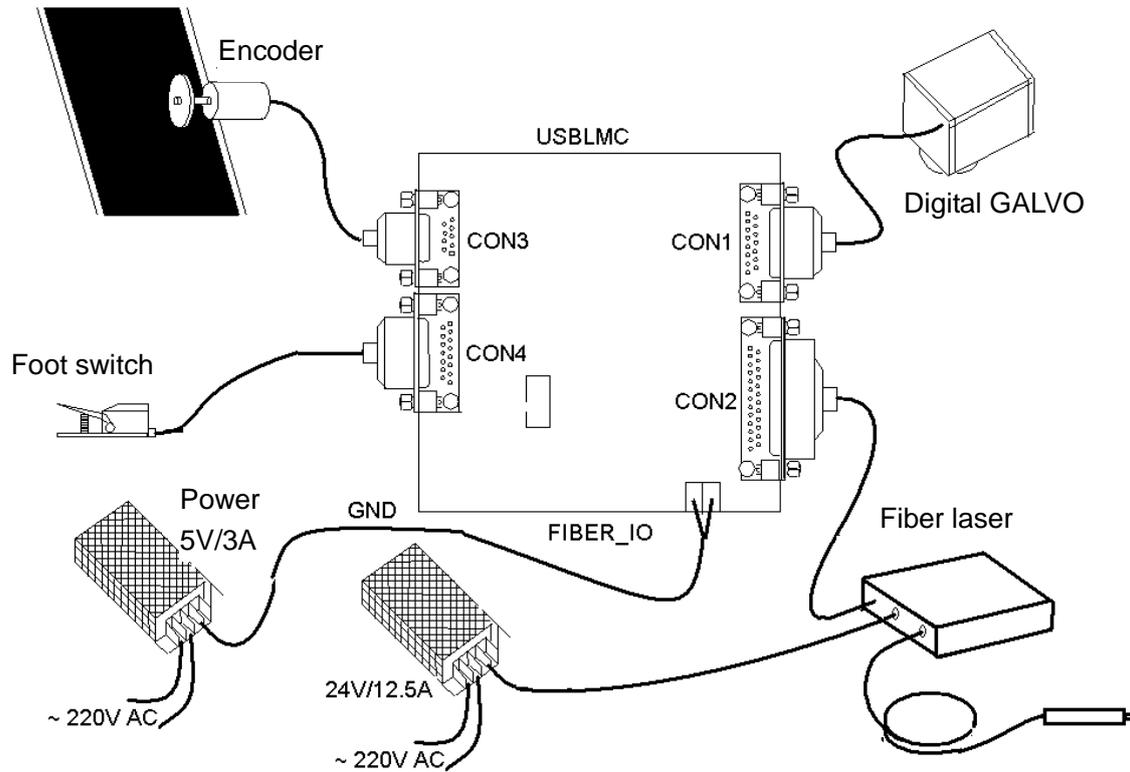

Fig. 2-14 Typical wiring illustration
- In Fig. 2-14, only Power supply, fiber laser and GALVO is requisite